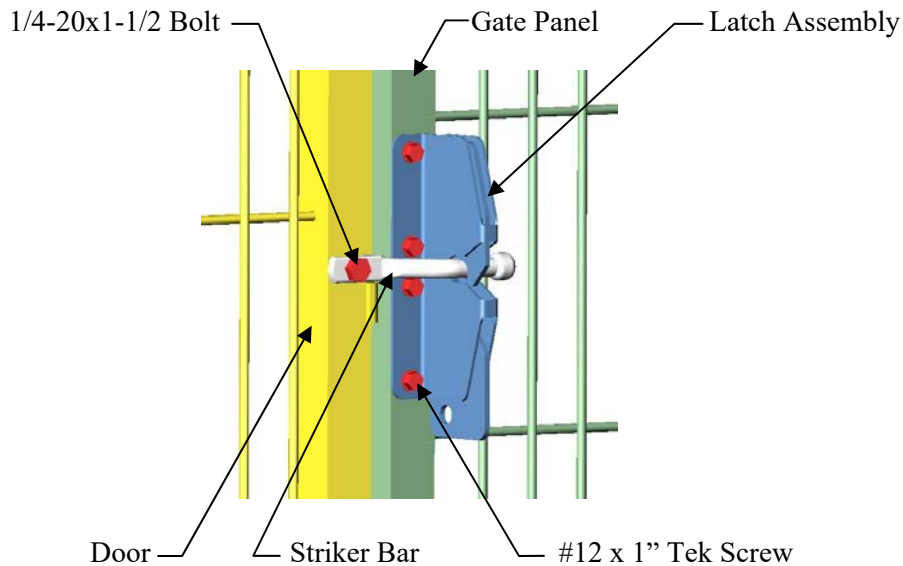

Figure 24
1. Install the Striker Bar to the pre-drilled Door using a 1/4"-20 x 1-1/2 Hex Bolt and 1/4"-20 Nylock Nut (**Figure 24**). Position the Striker bar into a horizontal position.
2. Hold the Latch Assembly in place against the Gate Panel and close the Door. Make sure to center the Striker Bar within the latch pocket and latch looks straight. Using (4) 1" Tek Screws, attach the Latch Assembly to the Gate Panel (**Figure 24 & 24A**).